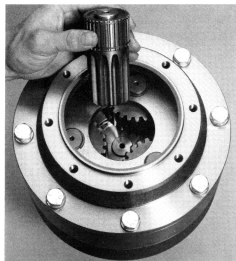

Fig. 12
26. Turn unit over and support, shaft down. Lubricate intermediate gear and small planet carrier assembly, place gear in mesh with large planet gears. (Fig. 12)
27. Lubricate 'O' rings (27). Place one 'O' ring onto pilot of transition plate (20). Note: Check for sharp edges or burrs on pilot.
28. Place small internal gear (26) into mesh with planet gears (35) of small planet carrier assembly. Line up holes in small internal gear with holes in transition plate (20).
29. Place other 'O' ring (27) on pilot of motor adapter (28). Note: Check for sharp edges or burrs on pilot.